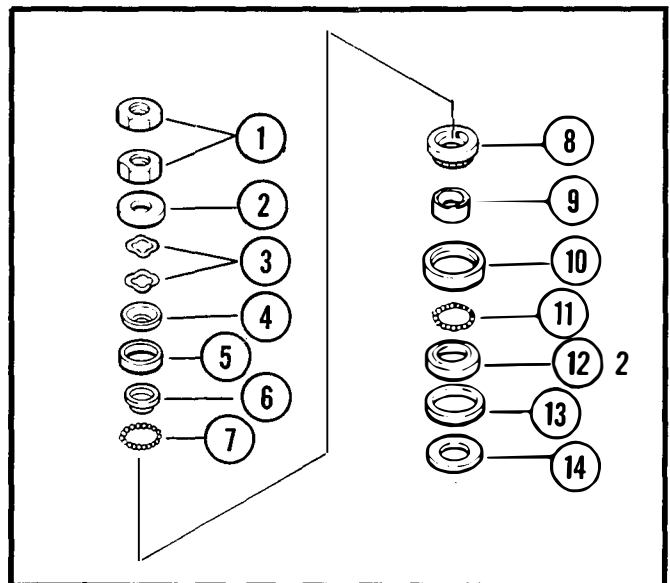

Figure 6.
- Care must be used in removing the fork. There are loose ball bearings in the bottom and top end of fork tube in the frame. Refer to Figure 6. for proper stack-up of parts. Part numbers and number required will vary from model to model.
- Place large washer onto fork. See Figure 6. for proper location of parts.
- Install upper fork bushing with bearing cup 3/16 inch balls, cone, dust seal, and install washer, two wave washers, dust seal, and cover. See figure 6 for proper location of parts.